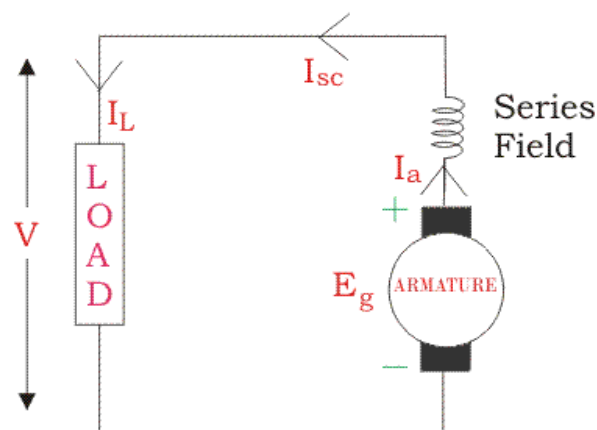

Figure.1.15. Self excited DC generator – Series wound.
1.6.3.1. Series wound Generator. In this type of generator, the field windings are connected in series with armature conductors, as shown in the figure 1.15. The whole current flows through the field coils as well as the load. As series field winding carries full load current it is designed with relatively few turns of thick wire. The electrical resistance of series field winding is therefore very low (nearly 0.5Ω).